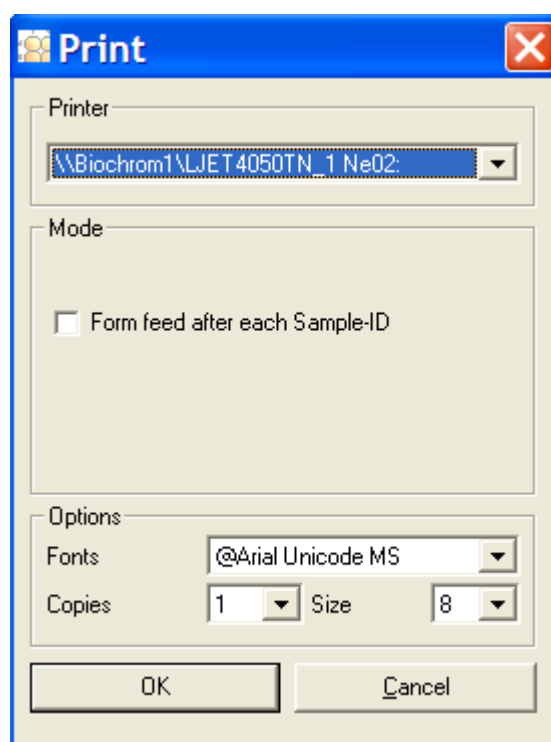

Figure 10-9: Print – Result List
1. Choose **Print**. Print appears (Figure 10-9).